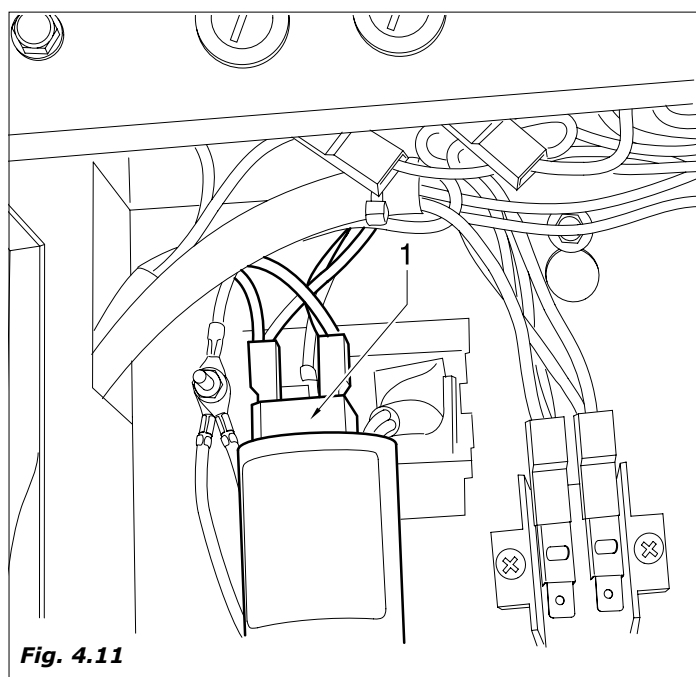
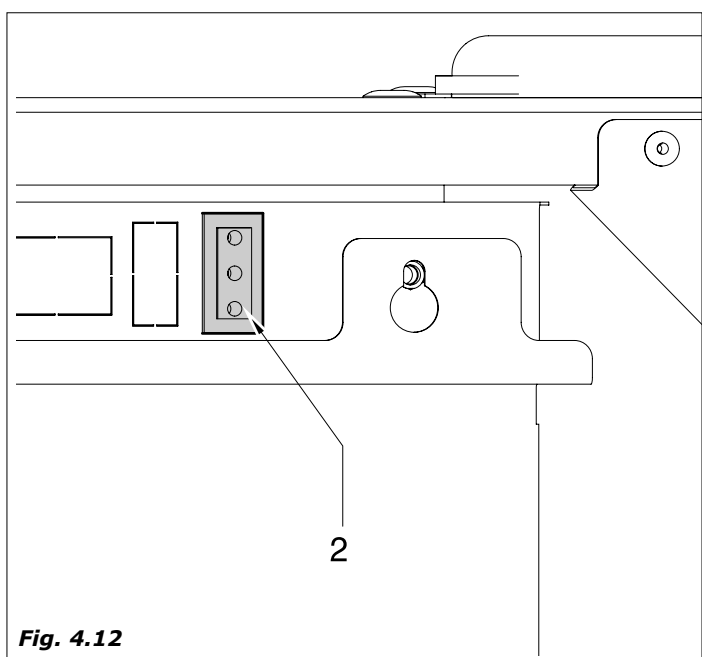

Fig. 4.11
Fig. 4.12
The clamp of the power cable junction box remain under tension (Fig.4.11-pos.1) as well as the service switch inside the distributor. (Fig.4.12-pos.2).